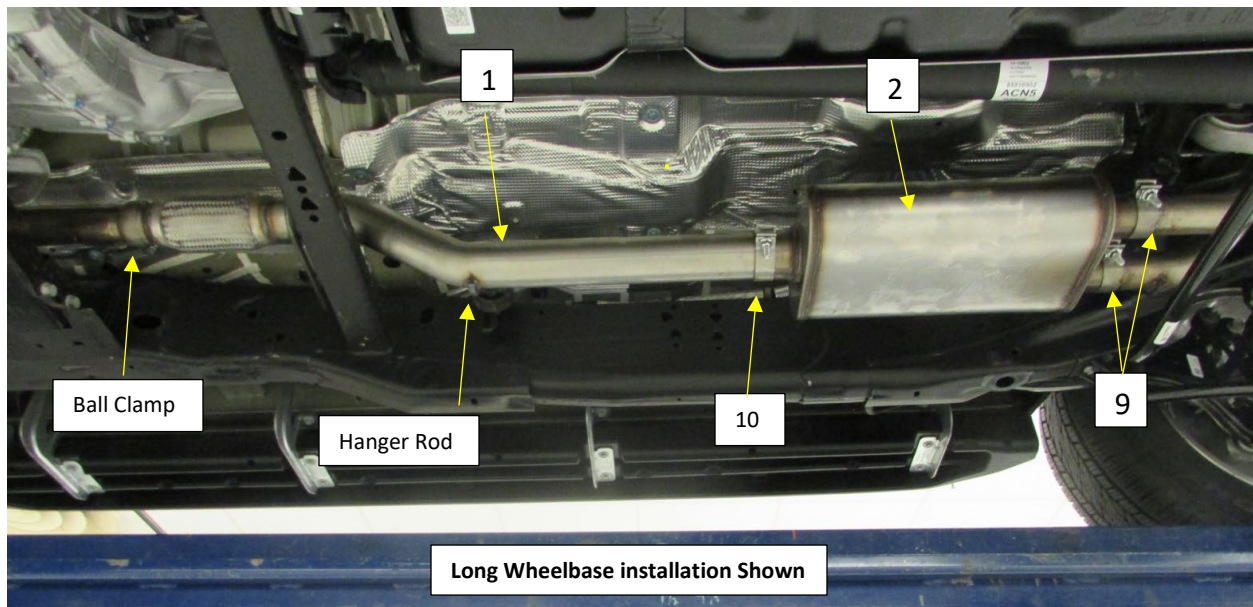

Figure. 6
2. Install the band clamp on to the flared inlet of the Flowmaster Muffler Inlet Pipe **(1)** with the tang at the bottom of the pipe, this will make easy access to the bolt. **Fig.6**
3. Install the Muffler Inlet Pipe **(1)** over the cross member and on to the ball connection of the OEM down Pipe from the Catalytic Converter. **Fig.6**
6. Install the Supplied 3.5" band clamp **(10)** on to the muffler inlet. **Fig.6**
7. Install the muffler **(2)** on to the Muffler inlet pipe approximately 2.5" **(1)**. **Support the muffler.** Tighten the clamp to allow for adjustment. **Fig.6**
8. Install the supplied 2.5" band Clamps (9) on to the muffler outlets. **Fig.6**